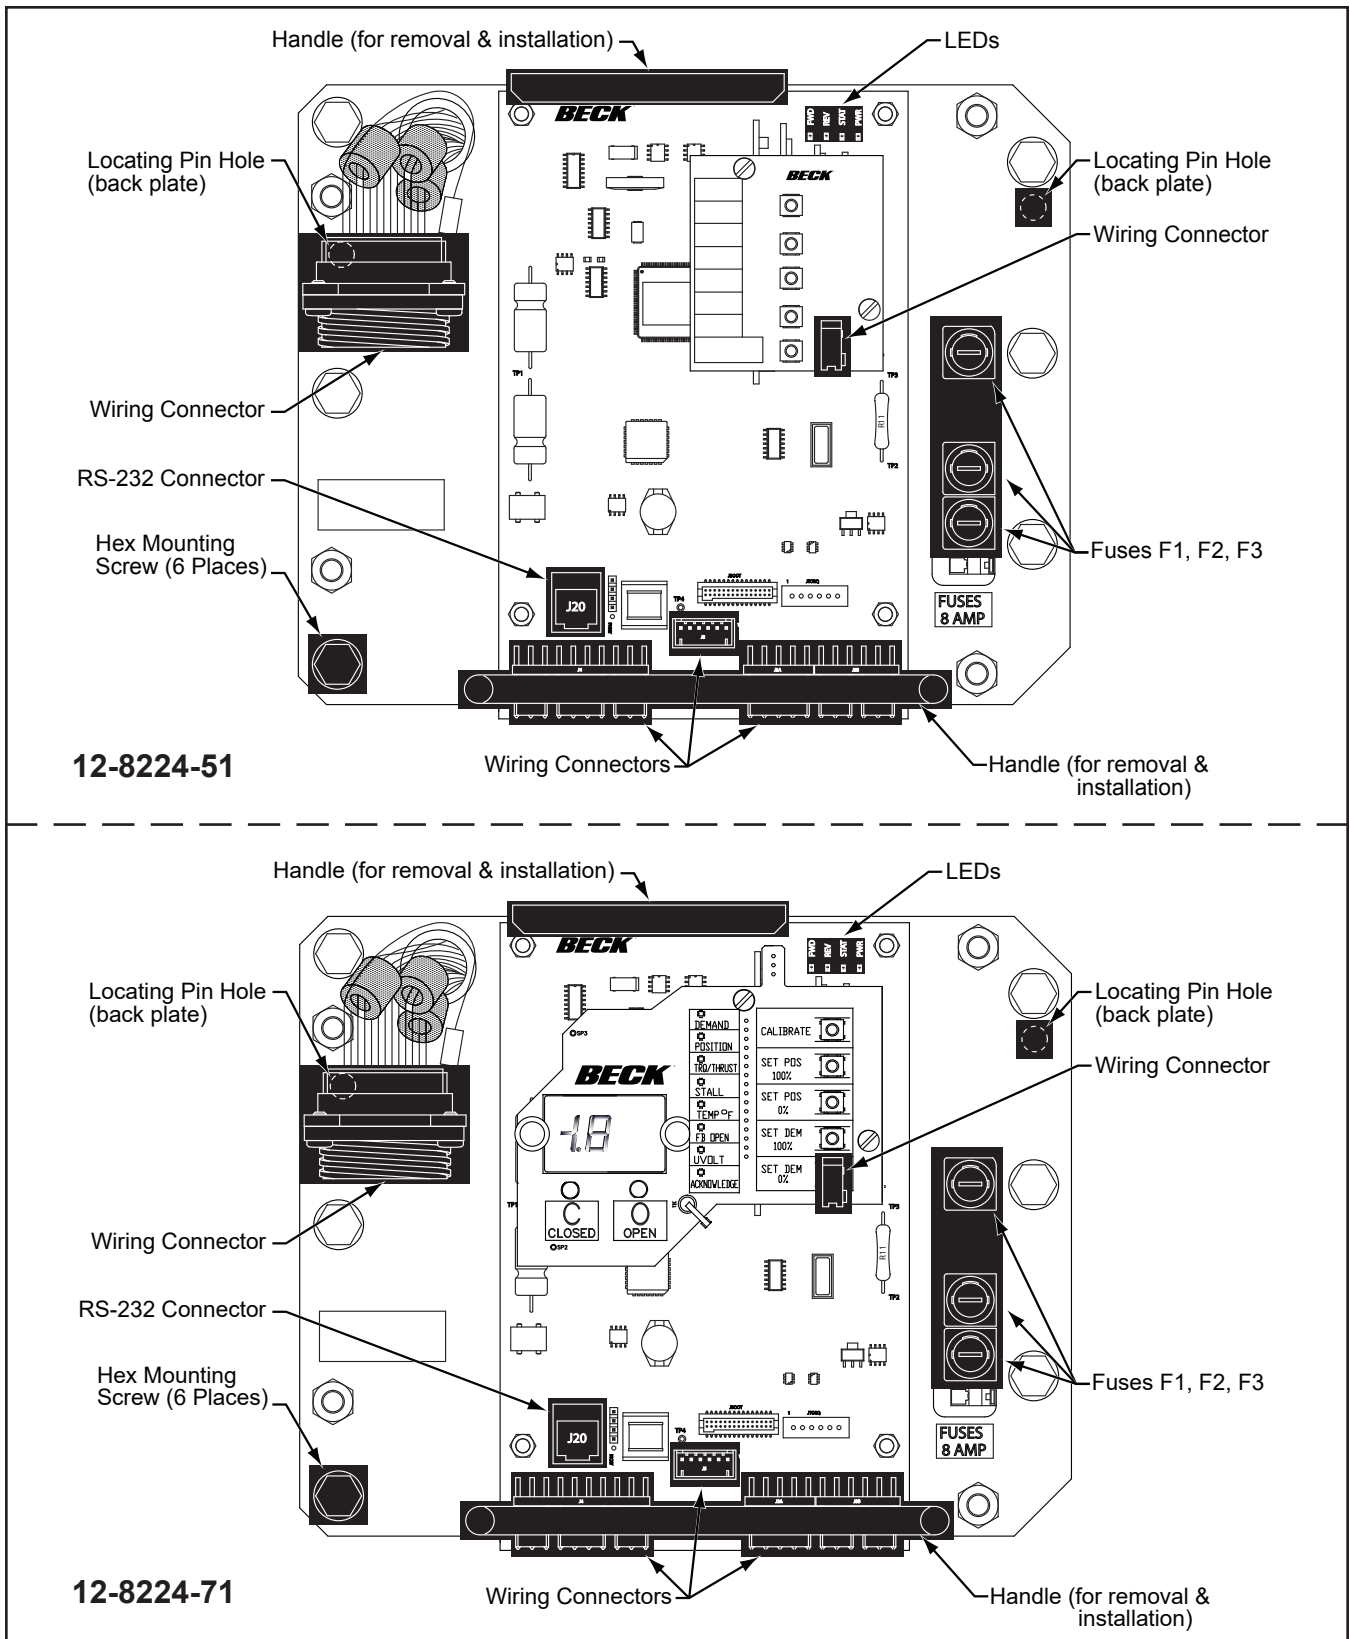

Figure 2
During this procedure, refer to Figure 2 (back cover) for the location of components.
3. Disconnect the (5) wiring connectors shown in Figure 2.
4. Loosen the (6) hex mounting screws with a 7/16" socket wrench.